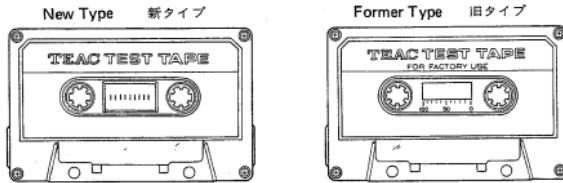

Fig. 4-3
**CAUTION 2:** The 238's 8-channel format head requires much more accuracy in tape travel adjustments than any traditional heads. Be sure to use a new TEAC mirror tape which is more suitable to the 238 than the former type. Note that both share the same model name and part number though they differ in aspects as shown in Fig. 4-3.
ので外観上の違いで区別して下さい。(図4-3 参照)